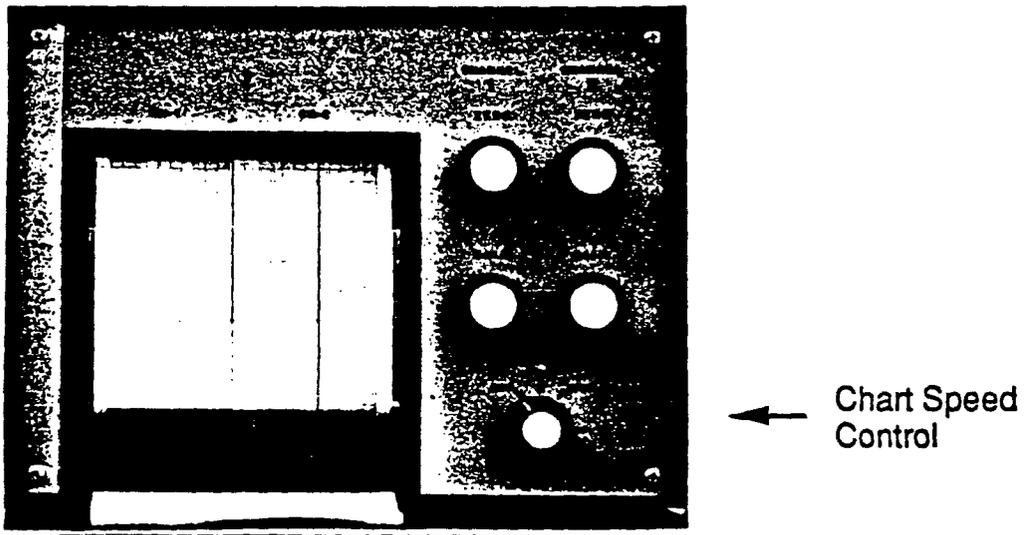

Figure 9. Strip Chart Recorder
3. Turn the output control on the arterial wall tracker to the ZERO (0) position.
10. The pens on both channels should now be at the right most line, or zero position. Turn the zero control for Channel 2 and position the pen in the middle of the strip. This will be the new zero for this channel. NOTE: If the gain or zero controls of the strip chart recorder (See Figure 9) are accidentally moved, the calibration procedure must be repeated.
The output of the arterial wall tracker is sent to the strip chart recorder (see Figure 9), which graphically records a diameter vs. time display of the artery's pulsating walls. The arterial waveforms displayed on the strip chart allow the sonographer to assess the validity of the data which the arterial wall tracker is acquiring.
3. Turn the strip chart on the high speed setting (see Figure 9).